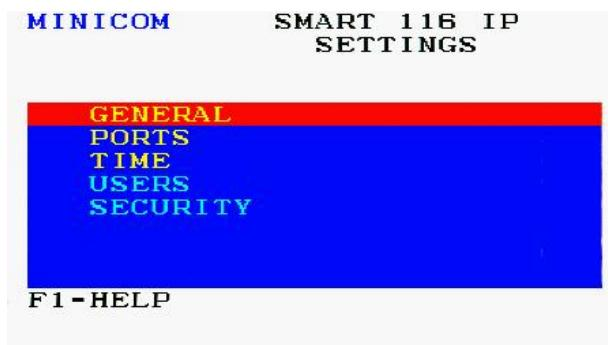

Figure 53 – OSD Settings Window
1. In the OSD Settings window (see Figure 53), navigate to **GENERAL** so that the red line is on it, and press **Enter**.
1. In the OSD Settings window (see Figure 53), navigate to **PORTS** so that the red line is on it, and press **Enter**.